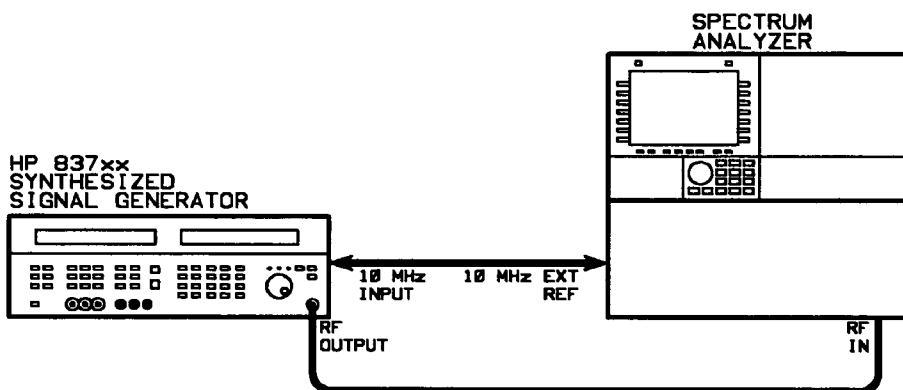

Figure 3-9. Harmonics Test Setup
1. Connect the equipment as shown in Figure 3-9.